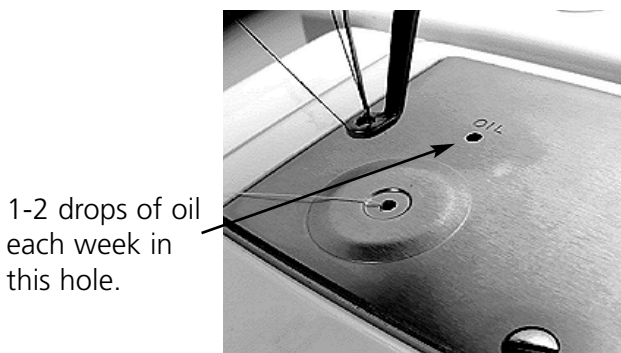

Figure 6-4
1. Place 1-2 drops of lubricating oil in the throat plate shown in Figure 6-4, once every week.